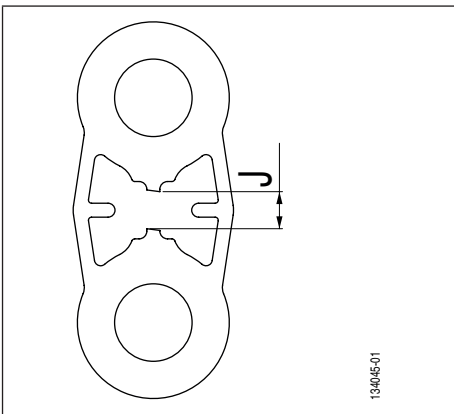
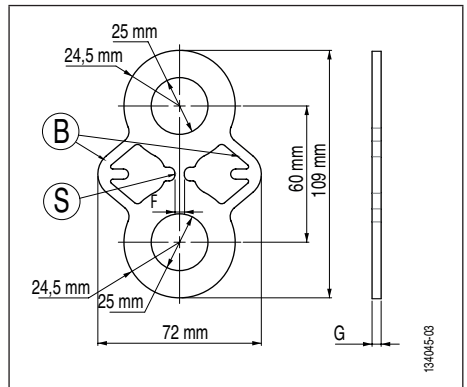

Fig. 1
Fig. 3
The test load is reached when the central section of the plate (*Fig. 3, page 4, item S*) shears. A pair of brace arms (*Fig. 3, page 4, item B*) secure the loading line after shearing of the ‘S’ section.
The different TA test plates are made of stainless steel of the same grade to ensure shearing of the section (*Fig. 3, page 4, item S*) to a level of precision of +/- 10 % of the CR shear load indicated on the TA test plate (chapter 11. *Markings*). The brace arms (*Fig. 3, page 4, item B*) are designed to ensure a mechanical strength of at least the CR shear load indicated on the test plate.
- At the shear load CR indicated on the TA test plate (chapter 11. *Markings*) shear of S section (*Fig. 3, page 4, item S*).
- Elongation of plate and appearance of clearance ‘J’ between upper and lower half-parts of TA test plate (*Fig. 1, page 4, clearance J*).
⚠ DANGER: If the operator applies a new load to the test plate after shearing of the 'S' section, the brace arm can break (Fig. 3, page 4, item B) resulting in falling down of the load application device. The maximum clearance 'J' (Fig. 1, page 4, clearance J) must not exceed 15 mm.